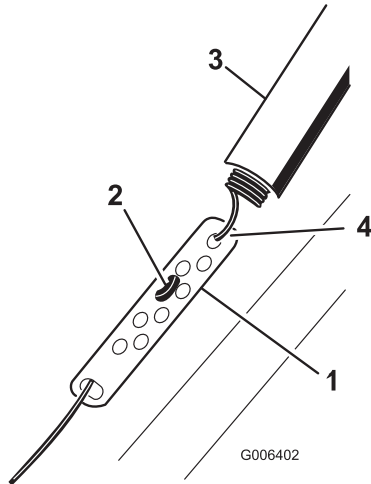

Figure 10
1. Slide up the spring cover and unhook the spring from the adjuster link (Figure 10).
2. Move the Z-fitting to a higher or lower hole on the adjuster link as needed to obtain the 1/16-inch to 1/8-inch (2 mm to 3 mm) gap between the control bar and the handle (Figure 10).